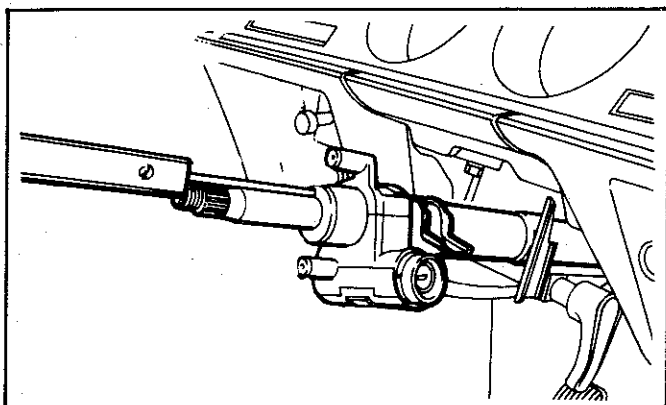

Fig. 23—Installing the steering shaft
(4) Position the tilt bracket to maintain the specified distance between the steering shaft top end and the upper end of the column tube, fig. 23. Tighten the tilt bracket mounting bolts.